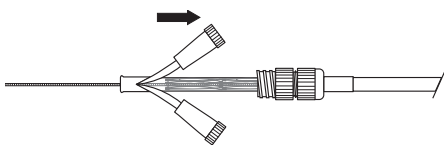

Fig. 3
10. Advance the Peel-Away stent loader assembly **firmly** into the proximal fitting of the stent introducer sheath until it stops. (Fig. 3)